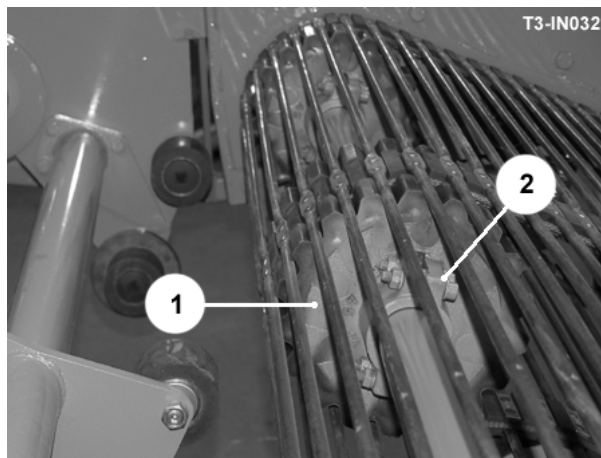

Fig 42
Split web drive sprockets (item 1, fig 42) on some web drive shafts. The sprockets allow for worn sprockets to be replaced or alternative pitch sprockets to be fitted without dismantling the drive shafts. Most drive sprockets will have been split on initial installation, but if not, they should be split with a hammer and sharp chisel. Before splitting a sprocket on or off the machine, remove the fixing bolts. Keep the split halves of the sprockets in the correct pairs to prevent mis-match when fitting.